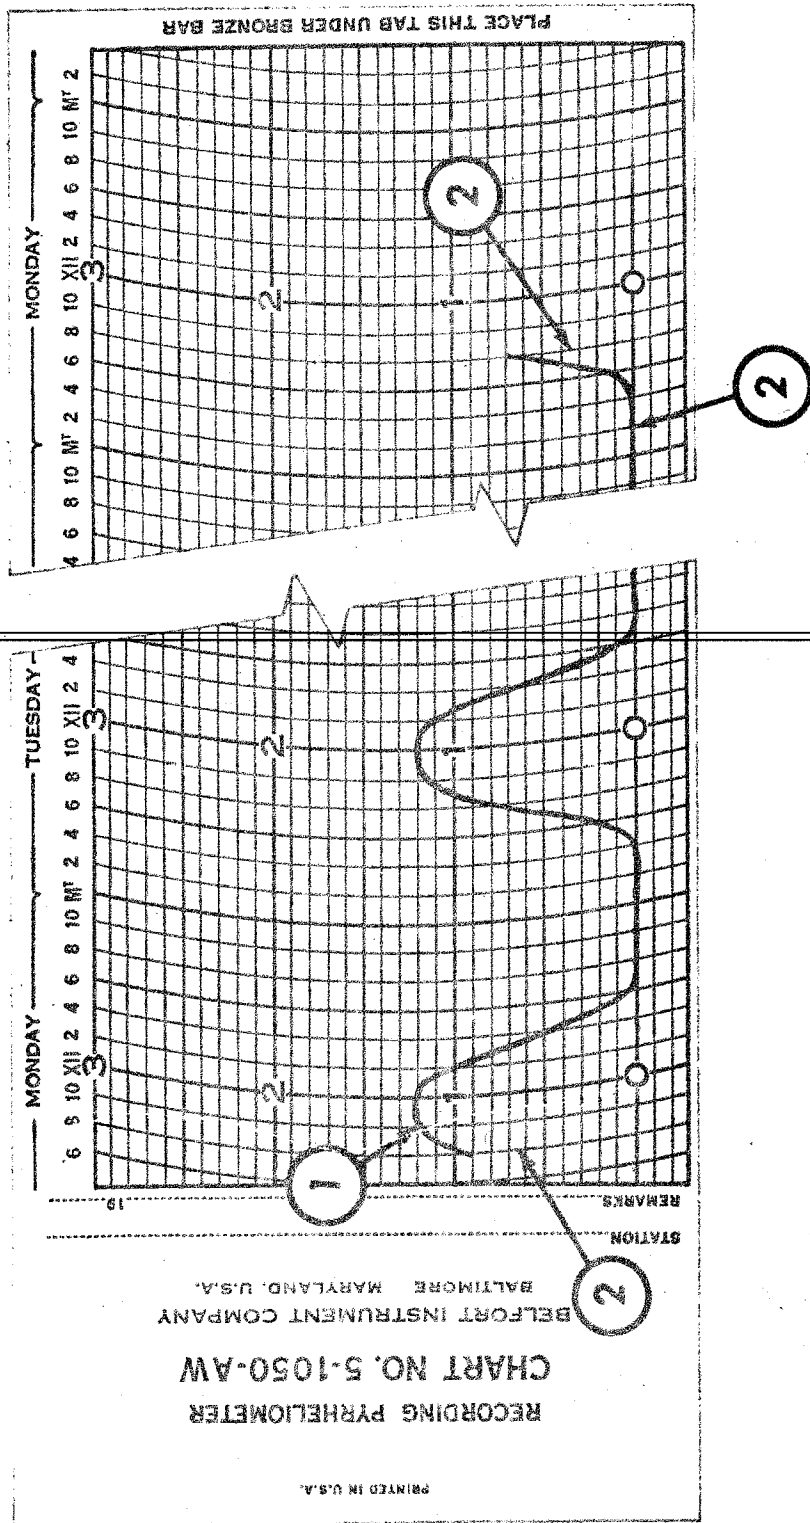

Fig 1 Sample Chart
3.4 To find the total amount of gram-calories per centimeter square for any period, (1) use the planimeter and follow the exact path of the inked record during that period, and (2) complete the loop by returning along the time arcs, if necessary, and the zero-line. (See Fig 1, page 4) It is absolutely necessary that the loop be closed completely. This area multiplied by the chart constant will give the total gram-calories per square centimeter for that period.